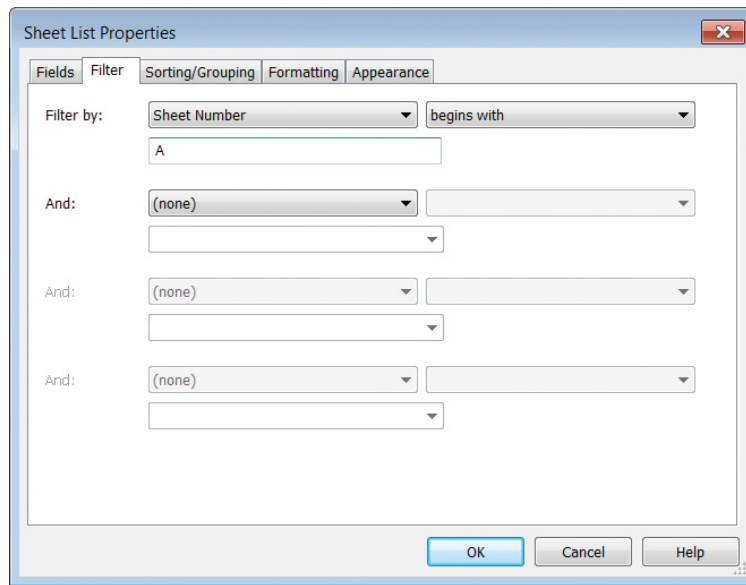

FIGURE 12.13 Creating a filter for specific sheets
3. On the Filter tab, choose to filter by Sheet Number. From the next drop-down, choose Begins With. In the third field, enter the letter A. (Be sure to use an uppercase A, because queries in Revit Architecture filters are case-sensitive.) The filter should look like Figure 12.13. When you're done, click OK to close the dialog box.